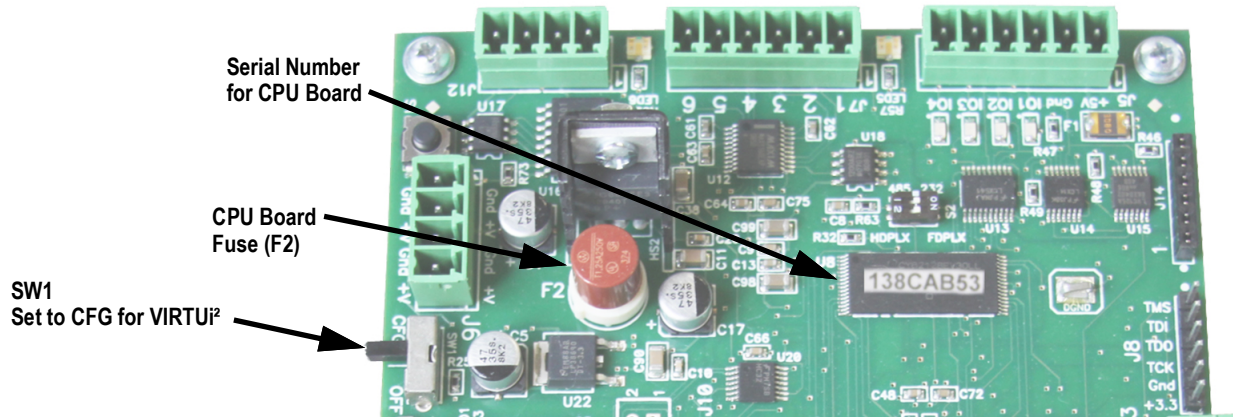

Figure 5-1. SW1 Location on CPU Board
3. For each secondary device, enter the desired ID (located on the CPU board; see Figure 5-1 on page 68).